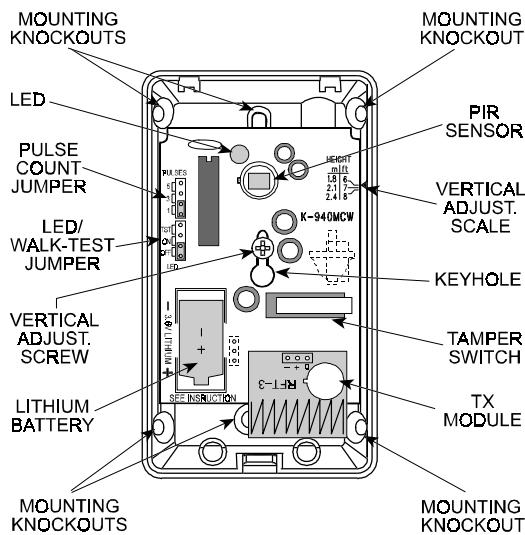

Figure 2. Components Layout
A. Insert the battery into the battery clip - observe polarity (see Figure 2).
- Note:** For wall surface mounting, use the two elongated knockouts at the middle of the base. For corner mounting, use two diagonally opposite knockouts at the angled sides of the base (see Figure 2).